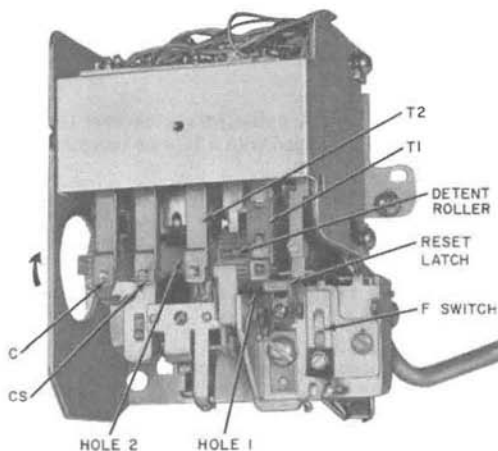

Fig. 11—Checking Totalizer Rate
Use extreme care when checking initial rate or resetting totalizer. Avoid damaging pawl and spring pile-ups. Do not attempt to turn totalizer cam shaft in direction opposite to that shown in Fig. 11.
- (1) Remove 1AA chute per 2.12.
- (2) Loosen retaining screw and remove transparent dust cover.
- (3) Rotate shaft in the proper direction (Fig. 11) until detent roller on detent wheel is positioned between the two black marks. This occurs at the same time T2 rests in depression in shaft. This position is called **home** position.
- (1) Rotate shaft in proper direction (Fig. 11) until it is in home position as described in 2.14 (3).
If hole 1 in T1 cam has been mutilated or clogged beyond use, place releaser or paper clip against tab as shown in Fig. 11 and push tab in direction of the straight arrow.